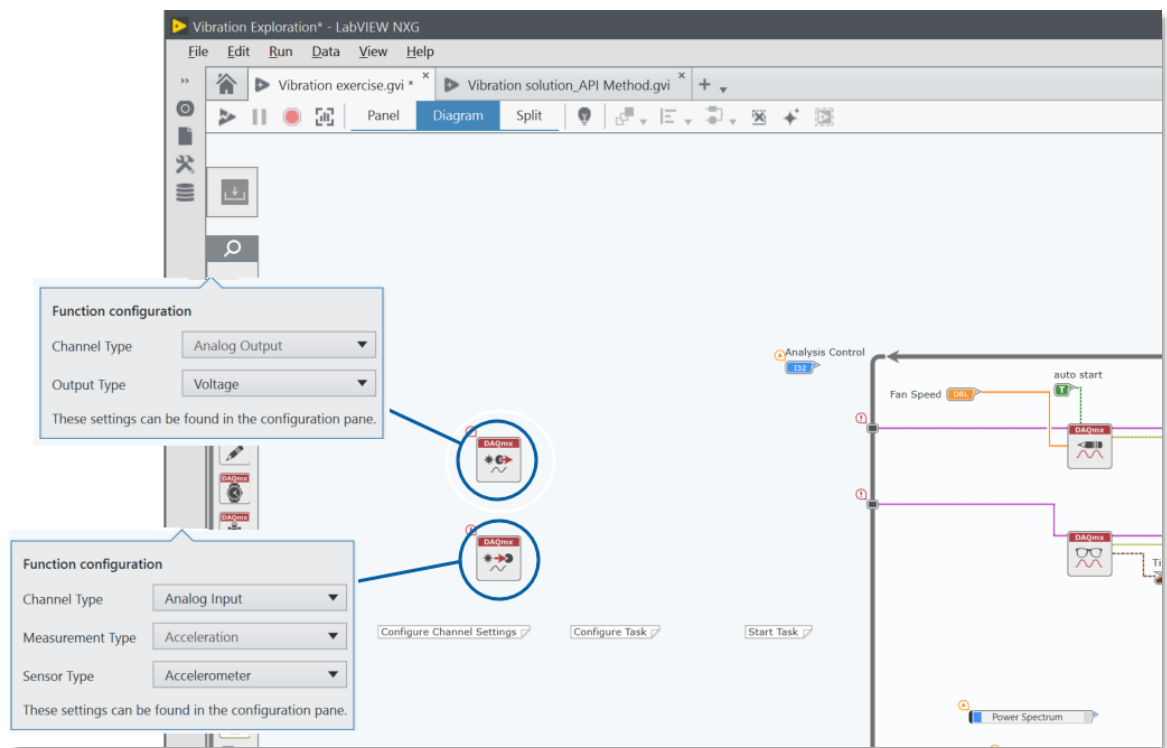

Figure 7-22 Create Virtual Channels.gvi creates a virtual channel to reference physical channels of a DAQ device.
4. In the palette, find **DAQmx Create Virtual Channel** and place it twice. Configure each as specified in Figure 7-22, below.